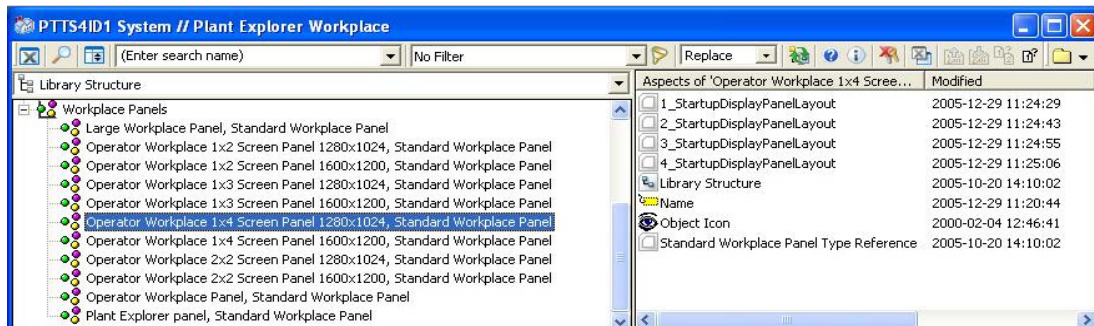

Figure 38. Workplace Panels in the Library Structure - Multi-Screen Workplace
- The template provides predefined panels for the different multi-screen workplaces. These are located in the Library Structure below the Workplace Panels object. See Figure 38.
set individually by configuring the “width%” column in the aspect view, see Fig 38.